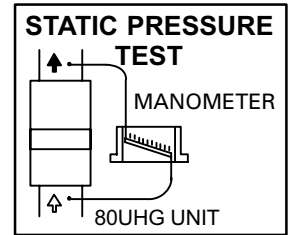

FIGURE 23
- 1 - Tap locations shown in figure 23.